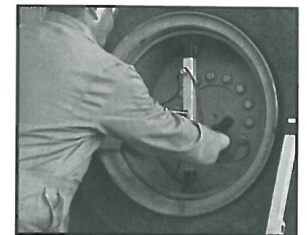

FIGURE 2
2. Hang the "O" Ring on the top set bolt of the bottom cross bar so as out of the way until installation of "O" Ring (**See Figure 2**).